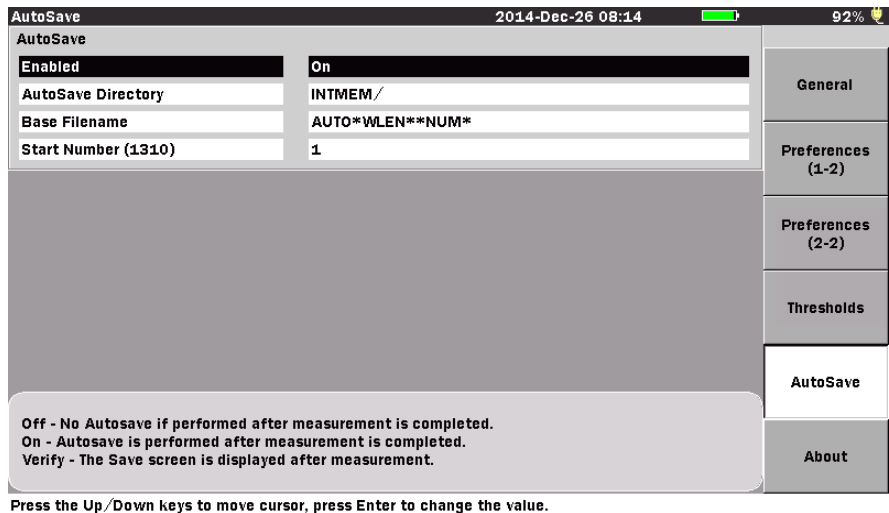

Figure 4-40: AutoSave Setups Screen
2. Press **AutoSave** (f5). The AutoSave setups screen appears (see Figure 4-40 on page 4-101).
2. Press **AutoSave (f5)**. The AutoSave setups screen appears (see Figure 4-40 on page 4-101).